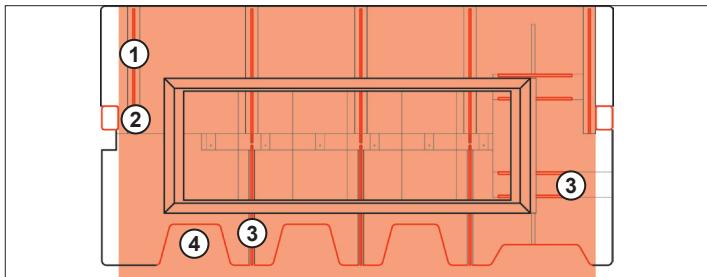
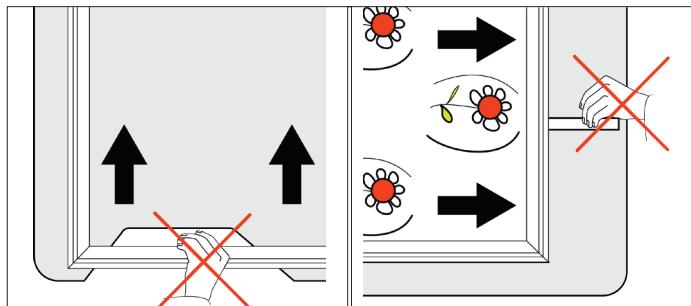

Fig. 2: Working range of pantograph
Fig. 3: Risk of crushing against pantograph frame
**- CAUTION! -** The pantograph travels at a very high speed. Do not rest on the work table or lean against the table recesses within the working range of the pantograph (Fig. 2) A collision with the high-speed pantograph can cause bruising and injuries resulting from crushing or shear forces. (Fig. 3).
- CAUTION! - The pantograph travels at a very high speed. Do not rest on the work table or lean against the table recesses within the working range of the pantograph (Fig. 2) A collision with the high-speed pantograph can cause bruising and injuries resulting from crushing or shear forces. (Fig. 3).
Keep your hands well away from the insides of supports (2), the table recesses (4) and pantograph guide slot (1), (3) because of the risk of injury. Also see (Fig. 3).